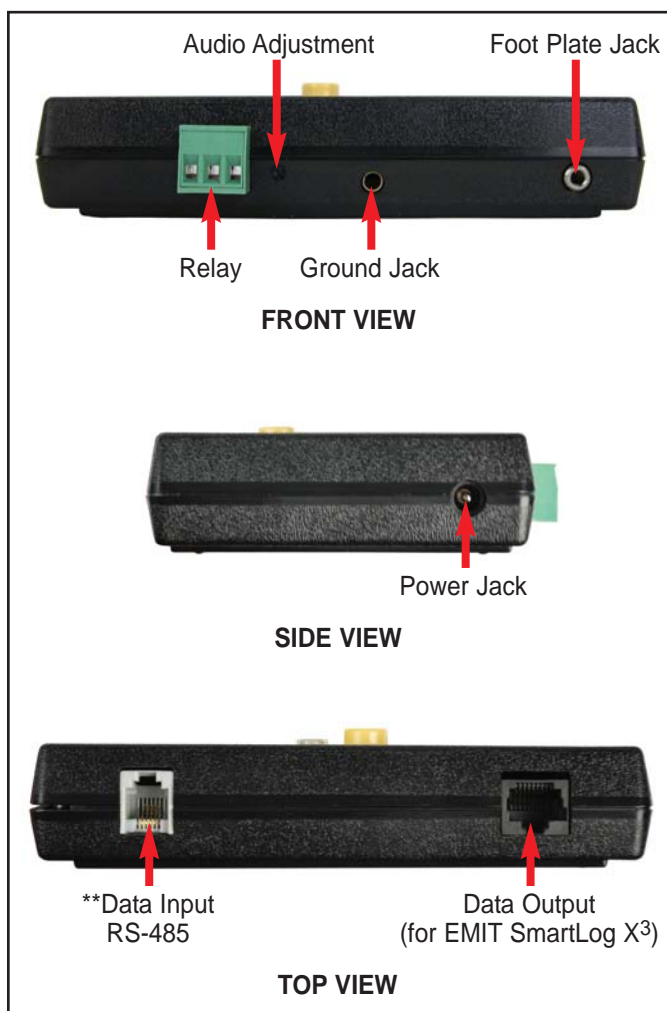

Figure 2. Combo Tester X3 side views
- III. Insert one end of the Stereo Plug to Stereo Plug cord into the stereo jack located at the bottom of the tester (see Figure 2). Insert the other end of the cord into the stereo jack at the back of the foot plate.
- IV. Insert the banana plug end of the Banana Plug to Ring Terminal cord into the ground jack located at the bottom of the tester (see Figure 2). Connect the ring terminal end of the cord to earth ground. This connection will remove any static charge from the user before the test.
- V. Insert the power supply plug into the power jack located on the left-side of the tester (see Figure 2). Plug the power supply into an appropriate power outlet.
- V. Insert one end of the Stereo Plug to Stereo Plug cord into the stereo jack located at the bottom of the tester (see Figure 2). Insert the other end of the cord into the stereo jack at the back of the foot plate.
- VI. Insert the banana plug end of the Banana Plug to Ring Terminal cord into the ground jack located at the bottom of the tester (see Figure 2). Connect the ring terminal end of the cord to earth ground. This connection will remove any static charge from the user before the test.
- VII. Insert the power supply plug into the power jack located on the left-side of the tester (see Figure 2).